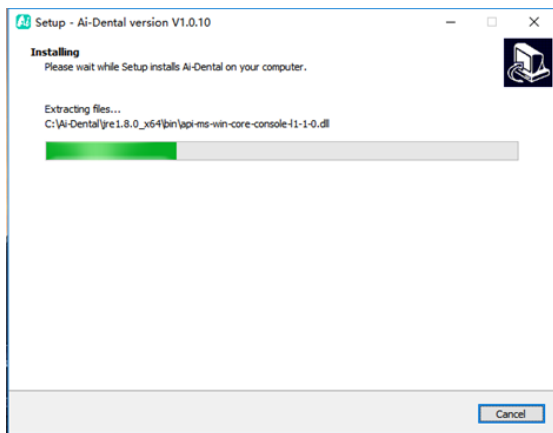

Figure 10
8. The program starts automatic installation, and then the user can wait till the installation is complete, as shown in Figure 10: